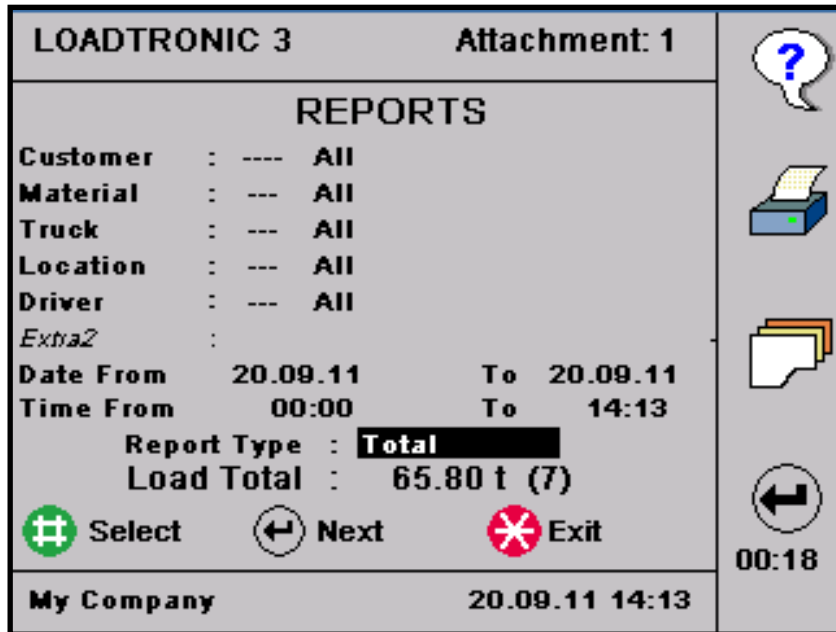

Figure 4-12 Generate the report shown in Figure 4-11.
4. The default report type is Total. Press *Select/#* to view the total weight loaded, refer Figure 4-12. The number in parentheses shows the number of loads that are delivered.